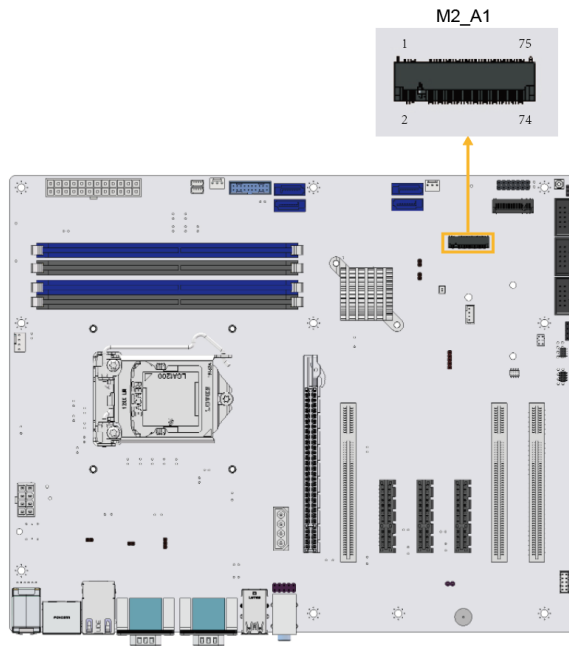

Figure 3-22: M.2 2230 Slot Location
- CN Location:** See **Figure 3-22**